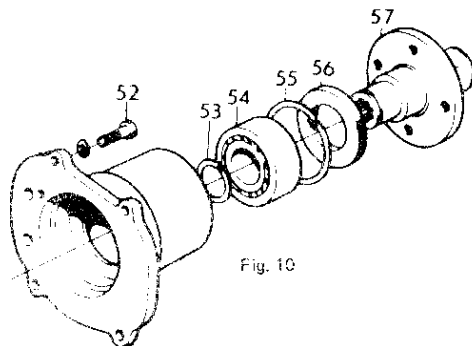

Fig. 10
1. Press the bearing (54, Fig 10) into the rear housing with the help of drift 884488.
2. Secure the bearing with the circlip (55).
3. Fit the sealing ring (56).
4. Apply a little grease to the sealing ring and press in the flange (57). NOTE! The counterhold (drift 884263) must be placed against the bearing inner race.
5. Secure the flange with the circlip (53).